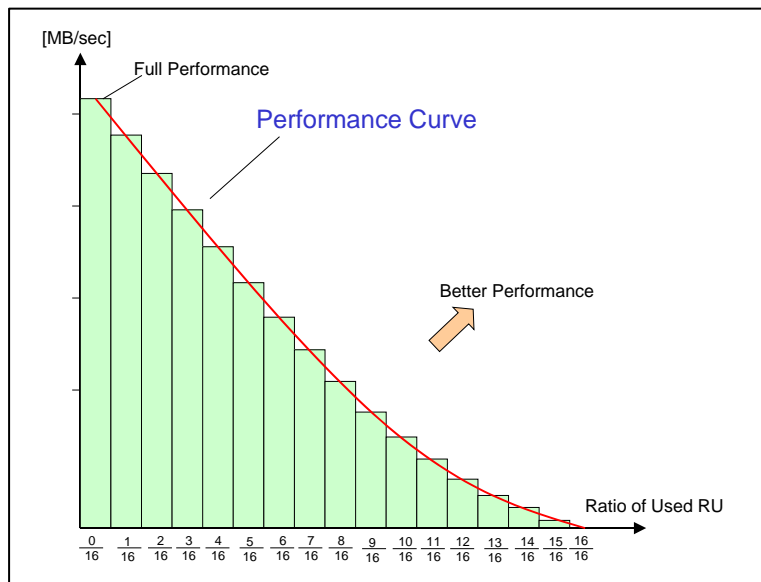

Figure 4-49: Card Performances between 16 RUs
Figure 4-49 shows the write performance bar chart of P(Nu) of equitation (1). An AU consists of 16 RUs in this example. Joining the points of each bar shows the performance curve, which can be determined from the two parameters, **Pw** and **Pm**.